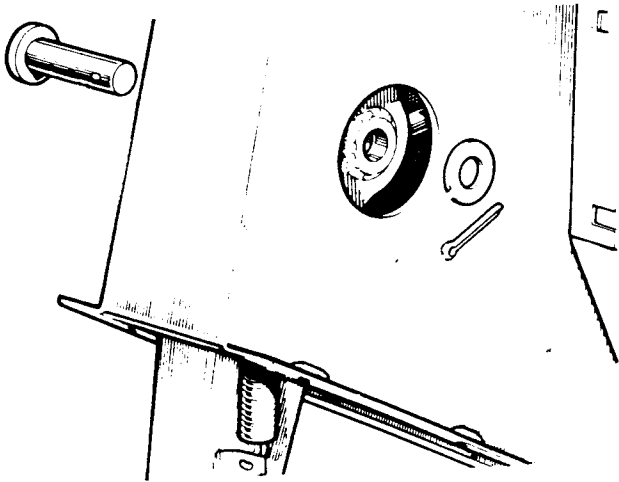

Fig K1.13
- (5) Refer to Fig K1.13. Replace the pivot pin and secure with a new split pin.